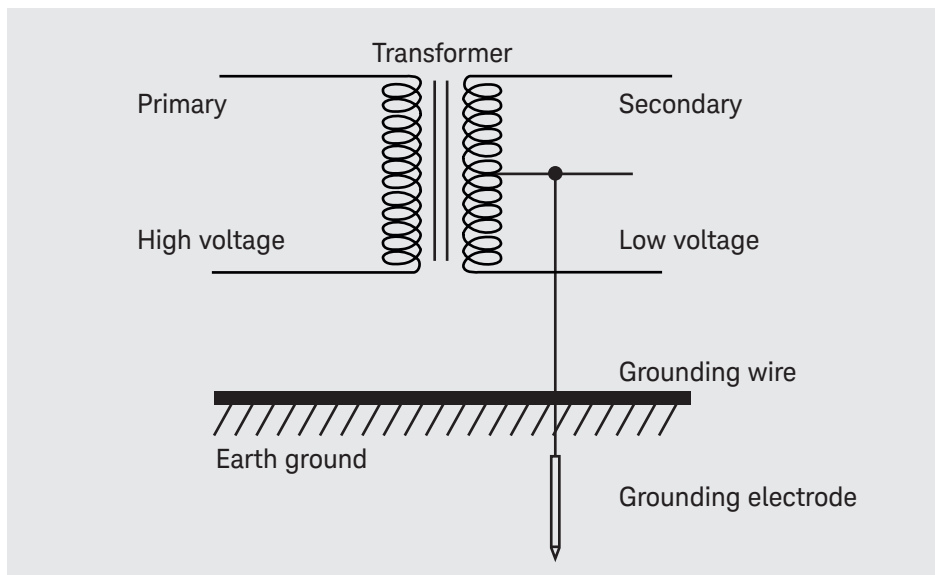

Figure 1.
- Power system grounding: As you can see in Figure 1, this design is to prevent the secondary side from being damaged by the high voltage on the primary side, as the current will be conducted to the ground through the Grounding Wire to protect human lives.